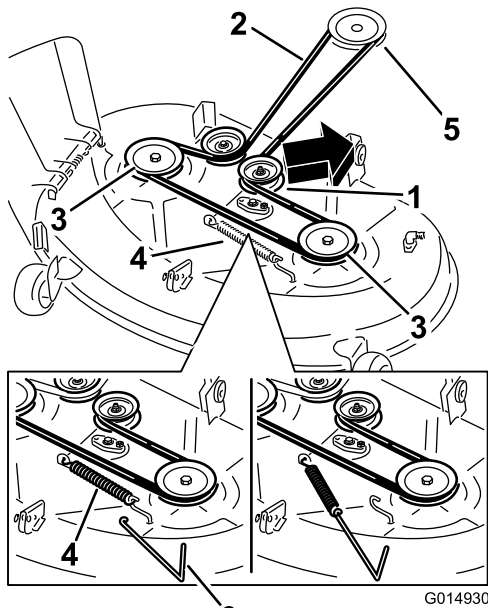
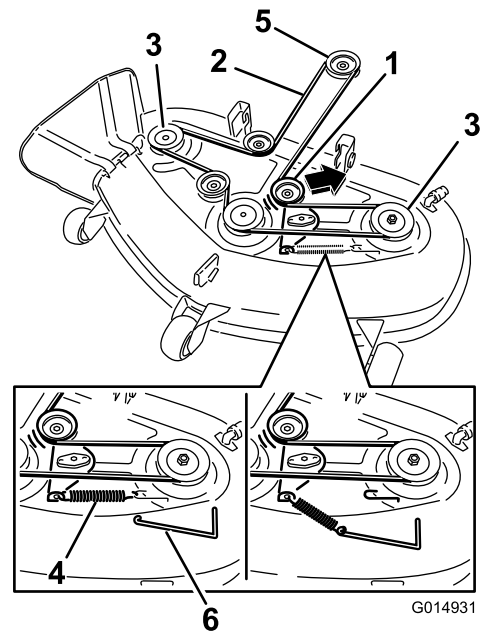

Figure 56
Figure 57
- Using a spring removal tool, (P/N. 92-5771), remove the idler spring from the deck hook to remove tension on the idler pulley and roll the belt off of the pulleys (Figure 56 and Figure 57).
- Route the new belt around the engine pulley and mower pulleys (Figure 57).
- Using a spring removal tool, (P/N 92-5771), install the idler spring over the deck hook and placing tension on the idler pulley and mower belt (Figure 56 and Figure 57).